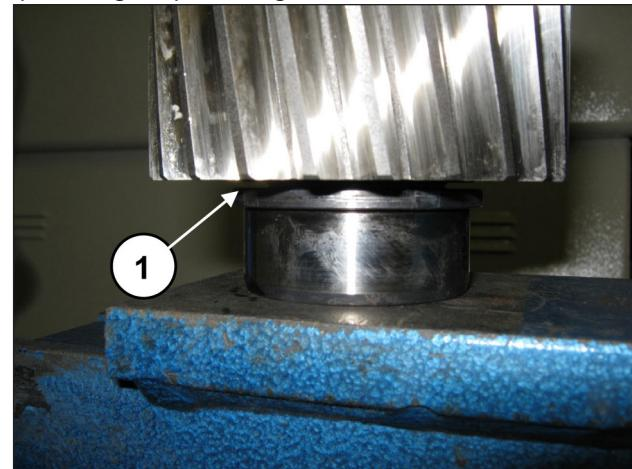

Fig. 82
Pre-assemble the inner bearing ring 40x90x23 on the pinion (pos. ①, Fig. 82) positioning it to end stroke.